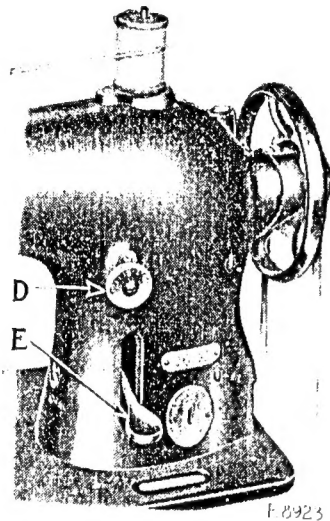

FIG. 14. SHOWING LEVER FOR REVERSING DIRECTION OF FEED
The length of stitch is regulated by the thumb screw (D, Fig. 14) at the front of the machine. This thumb screw is marked with numbers denoting from one to five millimeters, and when the number or fraction is directly opposite the lock pin, the machine will make stitches of corresponding length. Move the feed reversing lever (E, Fig. 14) to a central position in the slot. To lengthen the stitch, turn the thumb screw (D) over to the left. To shorten the stitch, turn this thumb screw over to the right. When the desired length of stitch has been obtained, move the feed reversing lever (E) back to its original position.
moving the lever (E, Fig. 14) in the slot at the front of the machine. To feed the goods from you, raise the lever (E) to its highest point. To feed the goods toward you, depress the lever (E) to its lowest point.